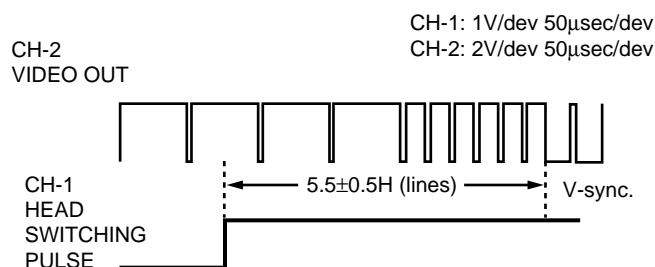

Figure 5-2.
4. Adjust R724 so that the leading edge of the head switching pulse is 5.5H (lines) ahead of the vertical sync as shown in Figure 5-2.